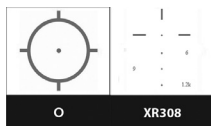

Fig. 1 552 reticle options
The 552 is offered with one of the following (2) reticle options (see fig. 1):